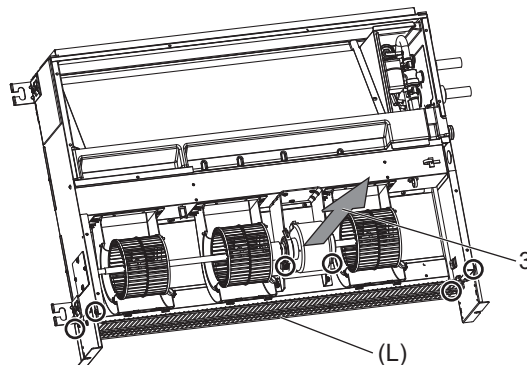

Fig.12
- (1) Remove the two motor fixing screws to remove the motor and the Sirocco fan in the direction of arrow 3. (Fig. 12)
- (2) Remove the four fan guard (L) screws to remove it. (Fig. 12)